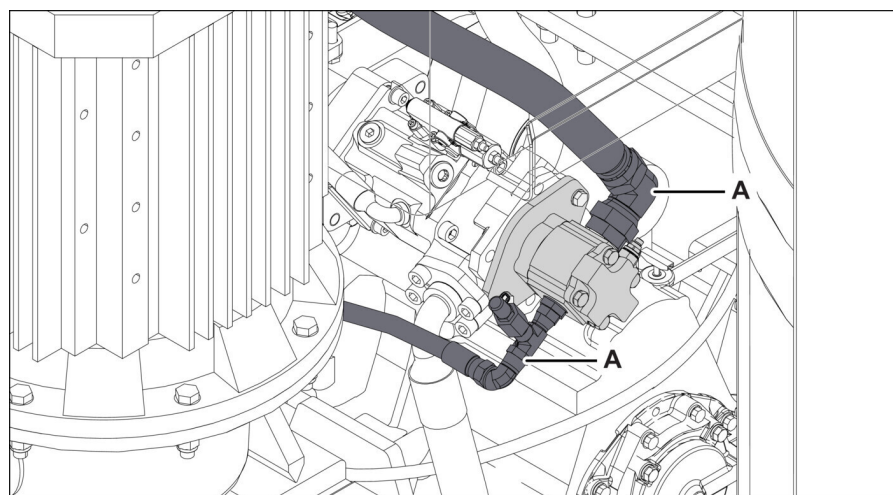

Figure 19
7. Connect the hydraulic hoses (Figure 19, item A) to the gear pump.